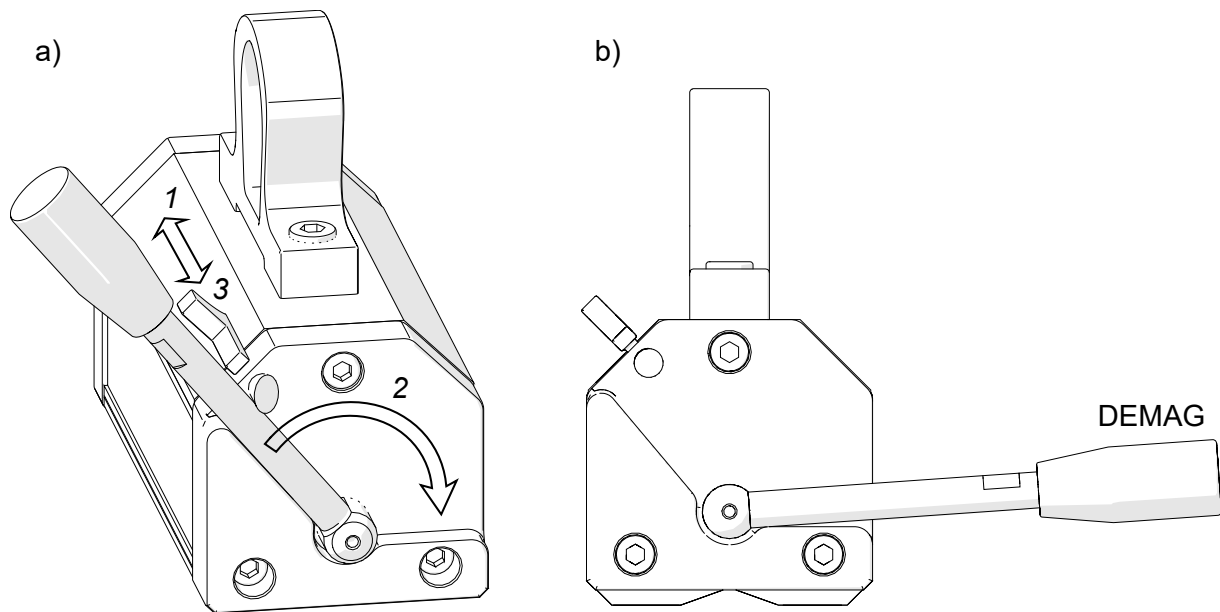

Fig. 4. Demagnetizing the lifter (a), lifter demagnetized (b)
Next, lift and move the load observing all safety precautions and set the load on the floor or on an adequate support. To release the load, turn off the lifter by retracting the lock pin (1, Fig. 4), rotating the lever right by constantly holding it until positioned in position DEMAG (2), and releasing the lock pin (3).